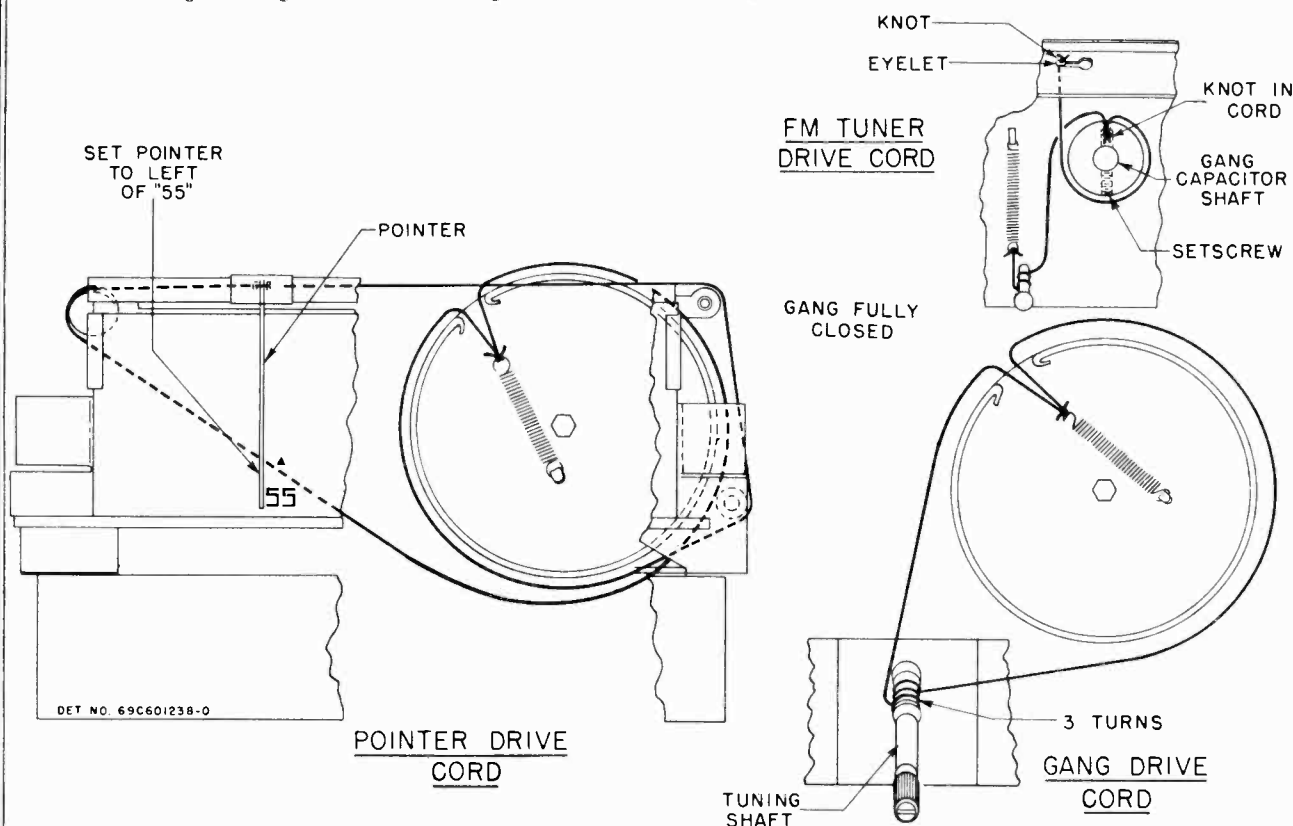

FIGURE 3. DIAL RESTRAINING DETAIL
1. With the gang fully closed, adjust the pointer to coincide with the left of the "55" marking on the dial scale. See Figure 3.